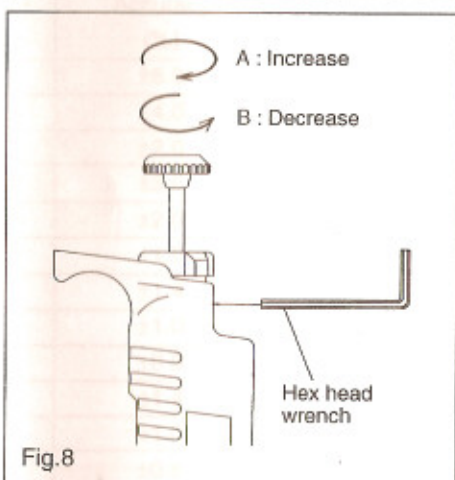

Fig.8
4. Loosen both hex head screws with a hex head wrench (1.5 mm) by turning them counter-clockwise one by one. (Fig.8)
5. Keeping the hex head wrench inserted into one hex head screw, turn the push button to calibrate the pipette. (Fig.8)